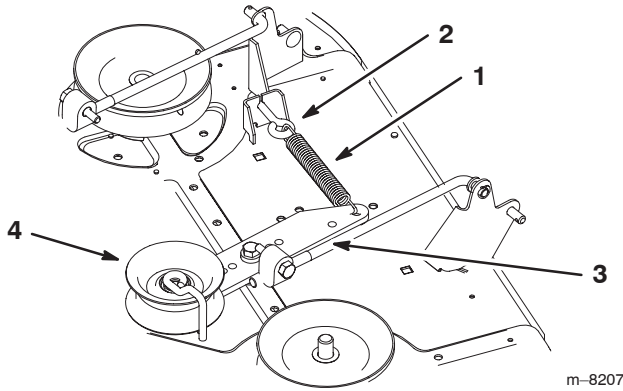

Figure 38
- Unhook the spring on the idler pulley arm from the bracket on the mower (Fig. 38).